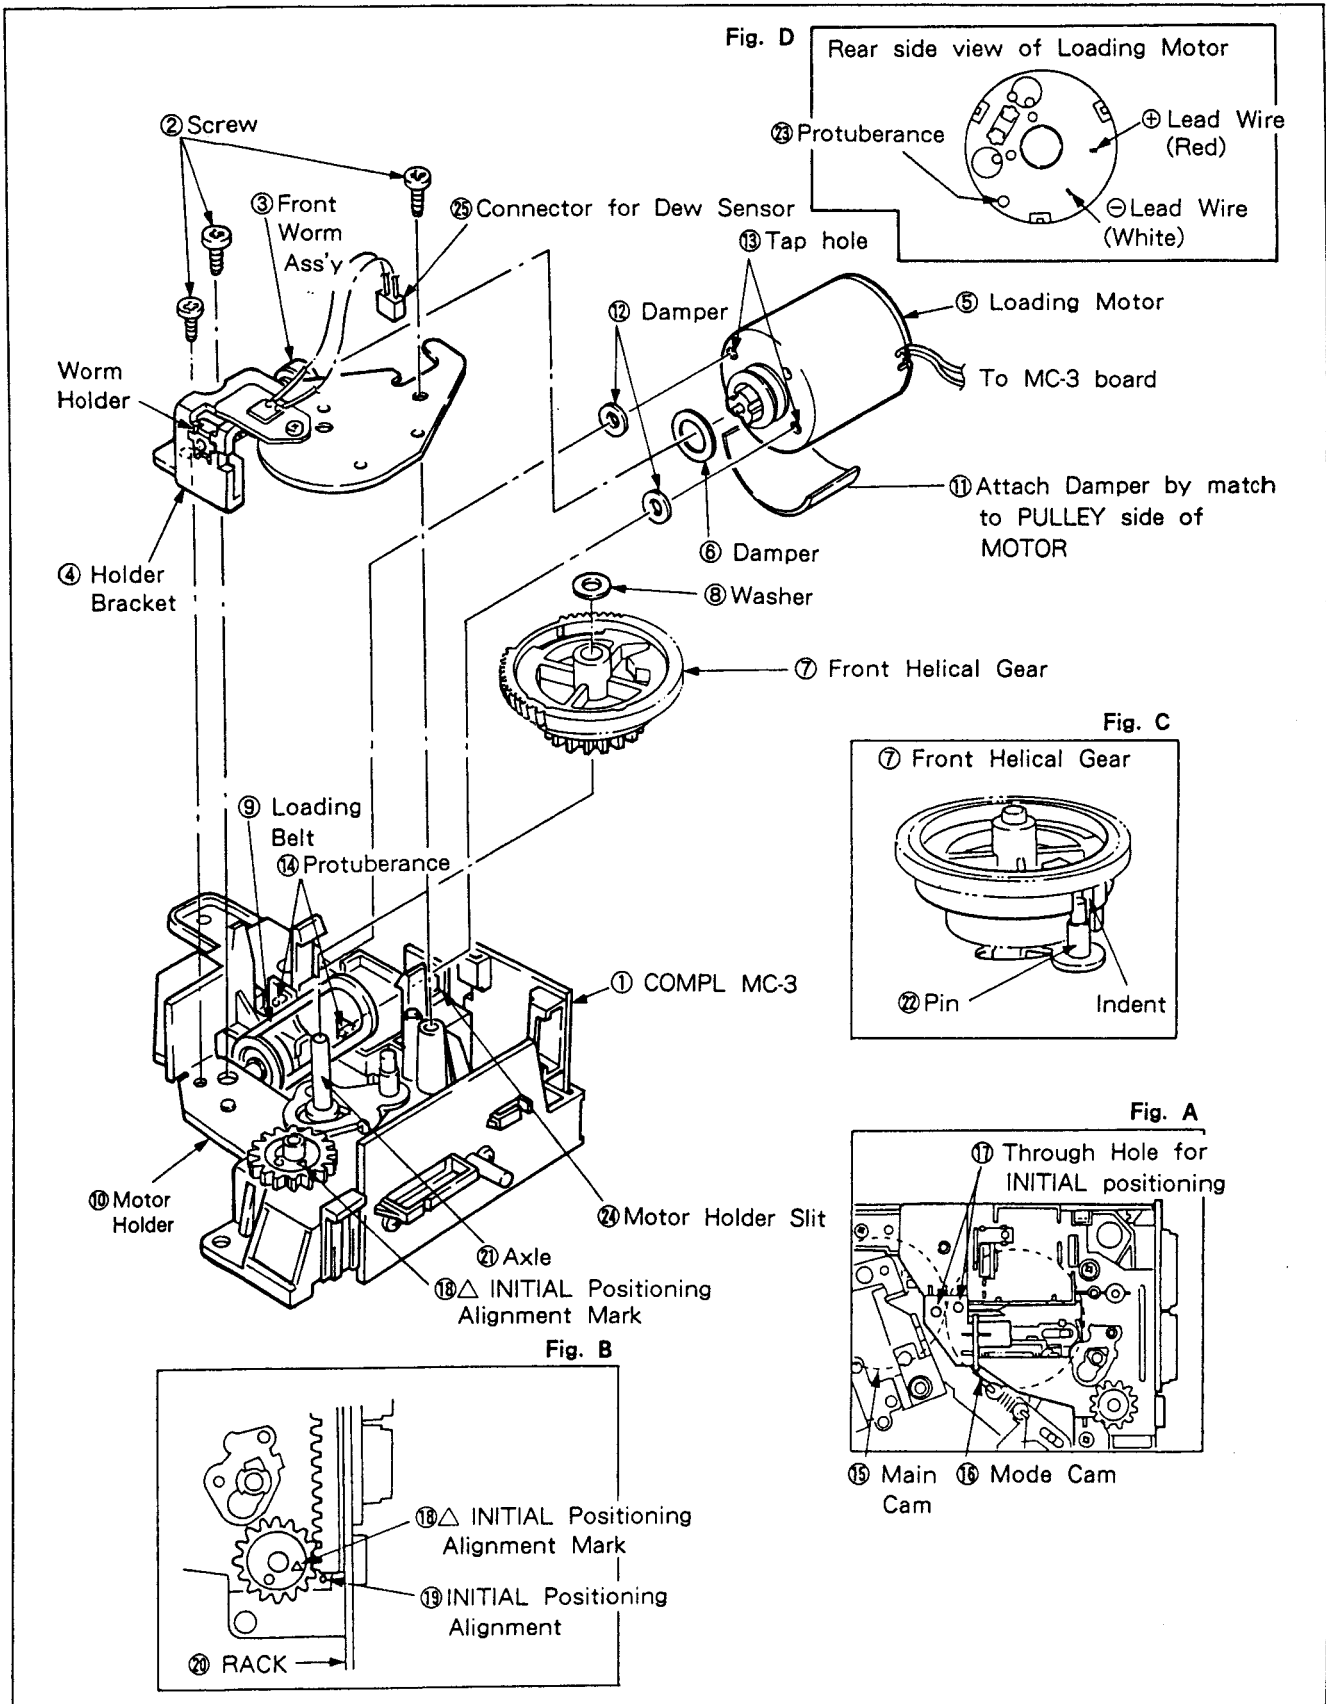

Fig. 4-3-2. Loading Motor
4-3-2. Loading Motor (Refer to Fig. 4-3-2.)
- 2) Solder the lead wire from the MC-3 board to LOADING MOTOR ⑤ terminal. (Solder the red lead wire to the positive terminal side.)
- 3) Hang LOADING BELT ⑨ on the pulley.
- 4) After hanging BELT ⑨ on the pulley, confirm that the mechanism unit is in the initial mode. The initial mode is indicated by Fig. A of Fig. 4-3-2., and is the position in which INITIAL POSITIONING ALIGNMENT HOLES of MAIN CAM ⑰ and MODE CAM ⑱ are lined up with THROUGH HOLE ⑲ of MOTOR HOLDER. If the initial mode is not selected, adjust with MODE SELECTOR (VHJ-0050).
- 5) As shown in Fig. B, confirm the positions of the △ POSITIONING ALIGNMENT MARK on FRONT LOAD GEAR ⑲ and INITIAL MARK ⑳ position of MOTOR HOLDER and the position relationship of CASSETTE HOLDER RACK ㉑.
- 6) Apply a light coat of grease to the entire sides of AXLE ㉒ and FRONT HELICAL GEAR ⑦.
- 7) Attach FRONT HELICAL GEAR ⑦ and WASHER ⑧ to AXLE ㉒. As shown in Fig. C, FRONT HELICAL GEAR ⑦ is attached so that the indent on the side is inside PIN ㉓ of FRONT LEVER ASS'Y.
- 8) Attach DAMPER ⑥ to LOADING MOTOR ⑤ pulley.
- 9) HOLDER BRACKET ④ is attached by engaging FRONT WORM ASS'Y ③ with LOADING MOTOR ⑤ pulley, and held in place with three screws ②.
- 10) Attach the connector of DEW SENSOR ㉔ to the MC-3 board ① and return the mechanism to the eject completion using MODE SELECTOR.